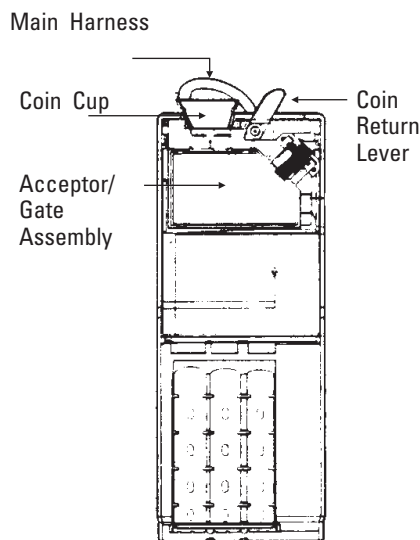
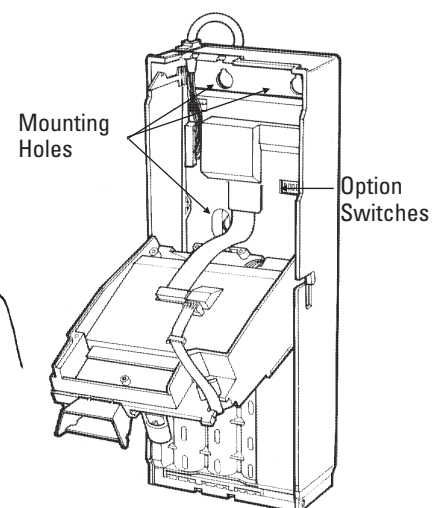

Figure 3-4:
Figure 3-6:
- 1 Release and lower the Acceptor/Gate Assembly by depressing both spring clips and rotating the Gate toward you (Figures 3-4 and 3-5). Locate the mounting holes, shown in Figure 3-6.
- 3 Plug the Changer Main Harness (Figure 3-4) into the appropriate Power Distribution Cable (one of the cables leaving the top of the Tower's Power Supply Box).
- 6 Using a small screwdriver or retracted ball point pen, position the Option Switches (Figures 3-6 and 3-7). Do not use a graphite pencil point. Refer to Table 3-2 to set these switches.